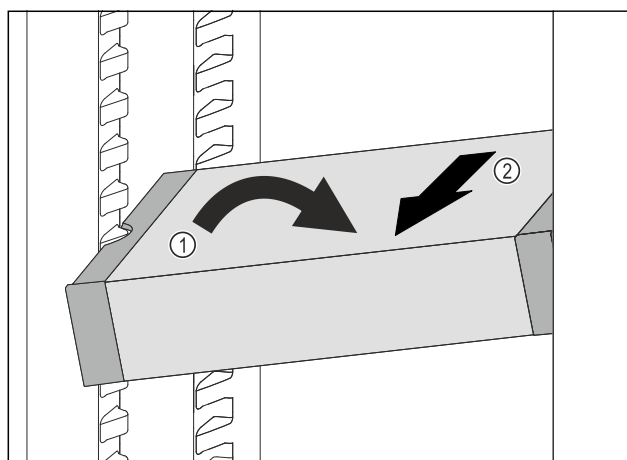

Fig. 223
- ▶ Set VarioSafe in refrigerator compartment at an angle. Fig. 223 (1)
- ▶ Take VarioSafe out to the front. Fig. 223 (2)